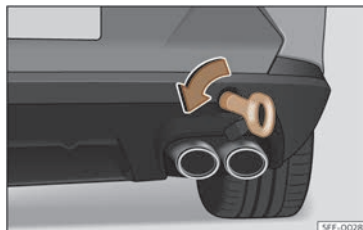

Fig. 202 Right side of the rear bumper: towline anchorage screwed in.
- Screw the towing eye in the housing by turning it to the maximum **anticlockwise** >>> Fig. 202 , >>> ⓘ . Use a suitable object that can completely and securely tighten the towing eye in its housing.